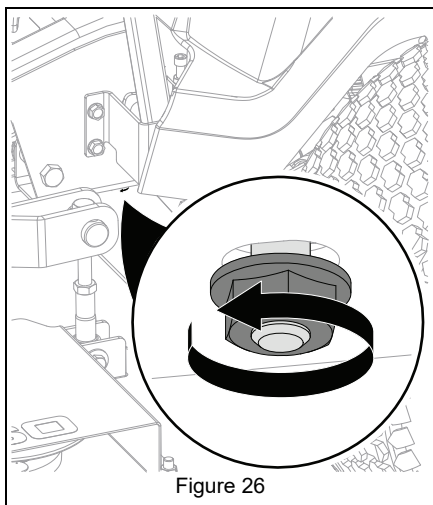

Figure 26
4. Loosen hex nut securing left battery retainer to frame. See Figure 26.
3. Tighten nut securing left battery retainer to frame. See Figure 26.